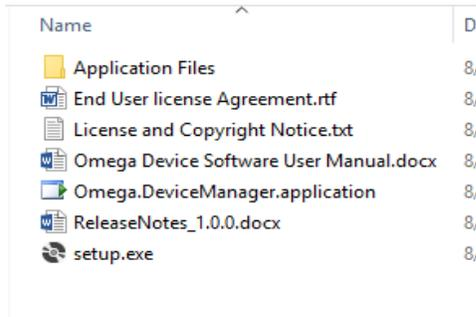

Figure 1. Unzipped Omega Sync installer package folder
2. Included in the installer package are Omega Sync application files, setup.exe, User Manual, Release Notes, License and Copyright Notice and End User License Agreement (**Figure 1**).